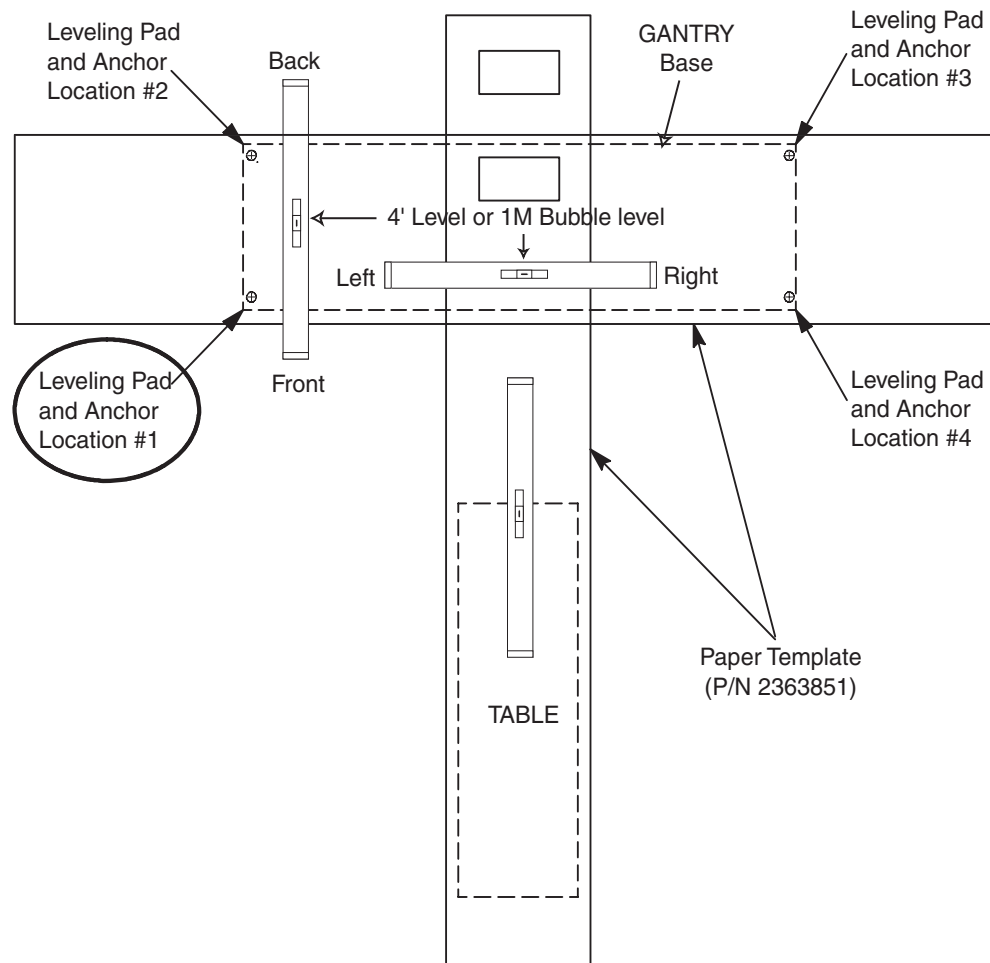

Figure 2-1 Hole Locations
- 1.) Lay out the two (2) floor templates.
- 4.) Check the level of the floor (See Figure 2-1) across the templates.
This should be measured on the template over the table/gantry area, as shown in Figure 2-1, above.